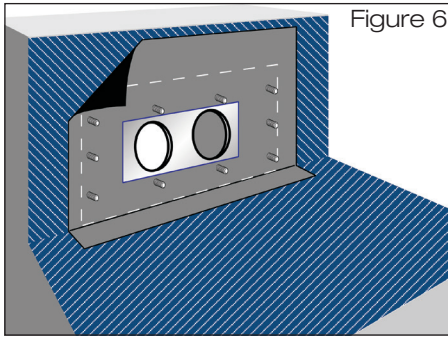

Figure 6
- 1.6 A bitumen primer must be applied to the floor slab and wall when bituminous vapour barrier sheets are used (Fig. 6). High-polymer vapour barrier sheets must be attached to the substrate in accordance with the foil manufacturer's laying specifications.